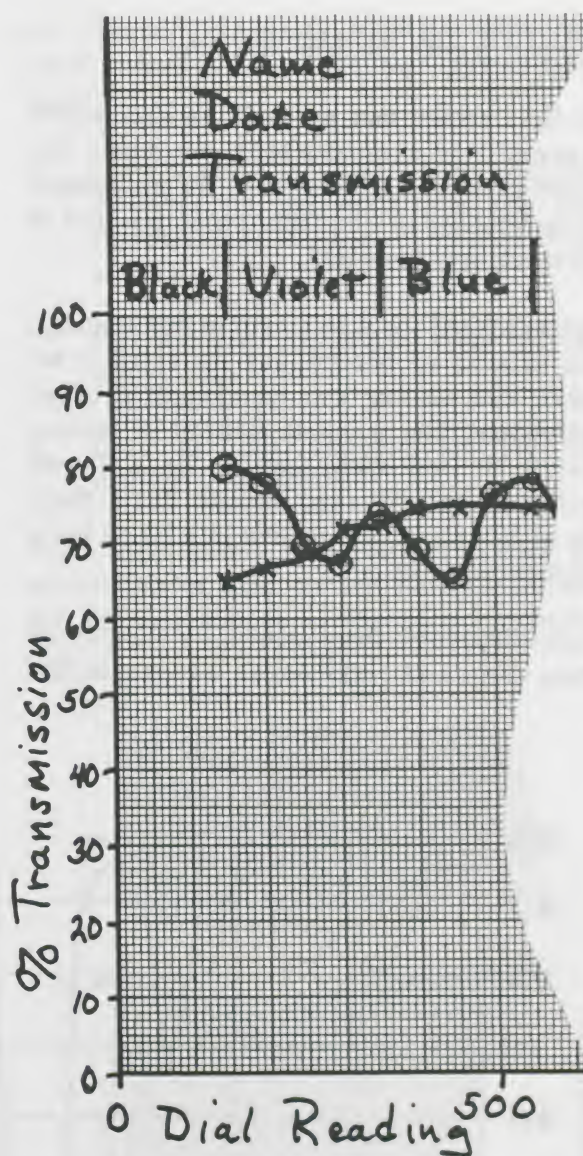

Figure 63.
1. Label a piece of graph paper with *Dial Reading* on the horizontal axis and *Percent Transmission* on the vertical axis, as illustrated in Figure 63.
4. Label the observed color boundaries on the top of your graph as in Figure 63.